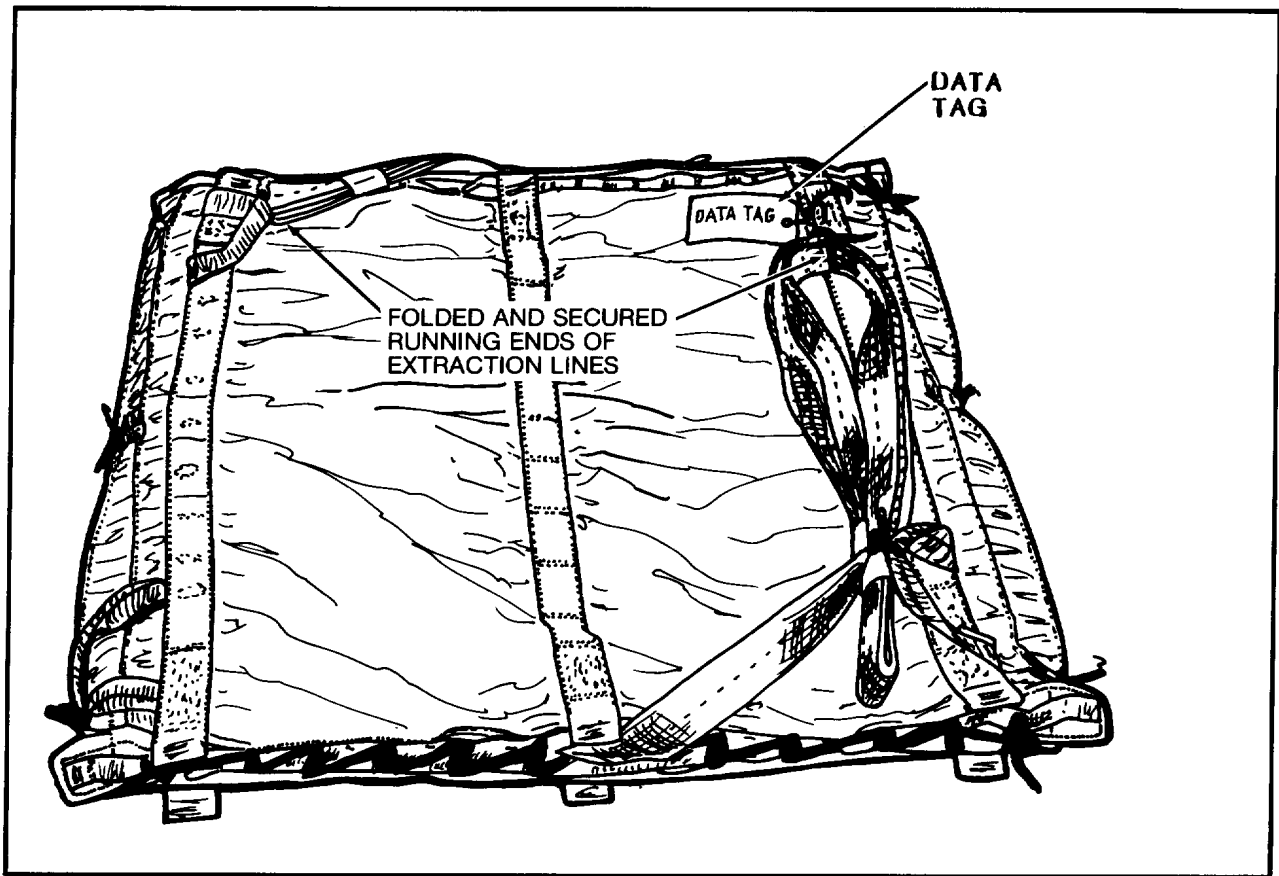

Figure 8. Extraction Line Running Ends Secured to Panel.
- g. Fold and secure running ends of extraction line to carrying handles using 1/4-inch wide type I cotton webbing (figure 8).